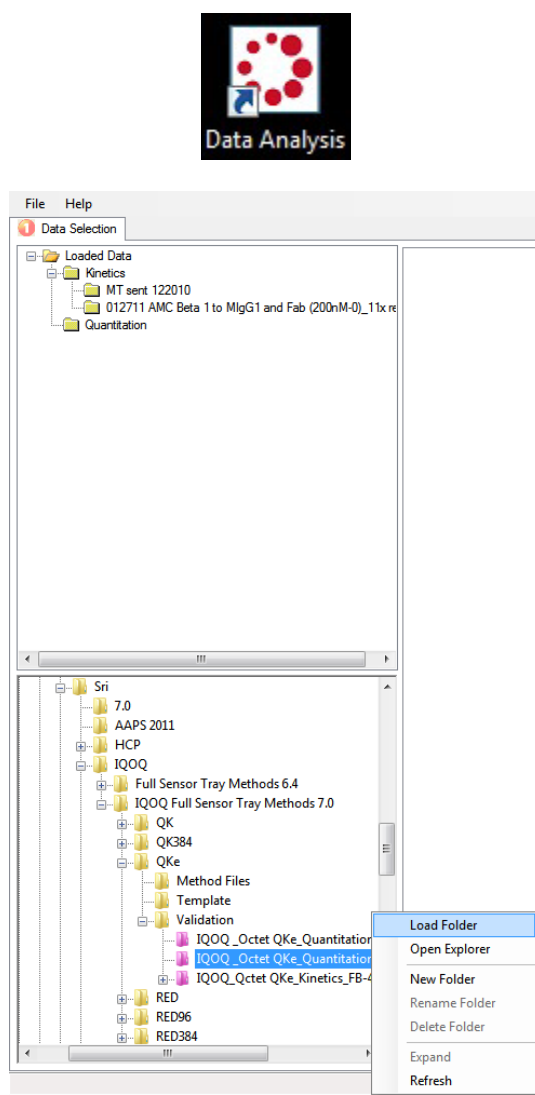

FIGURE 3.4. LOADING A FOLDER IN OCTET DATA ANALYSIS SOFTWARE.
- 1.1. In **Tab 1, Data Selection**, lower left-hand side window, select the experiment folder created from the quantitation qualification experiment (Figure 3.4).